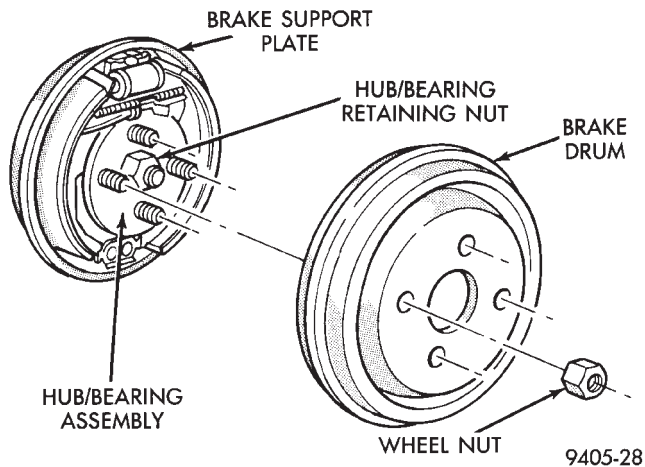

Fig. 122 Brake Drum And Hub And Bearing Assembly
(3) Remove rear brake drum from the rear hub and bearing assembly (Fig. 122).